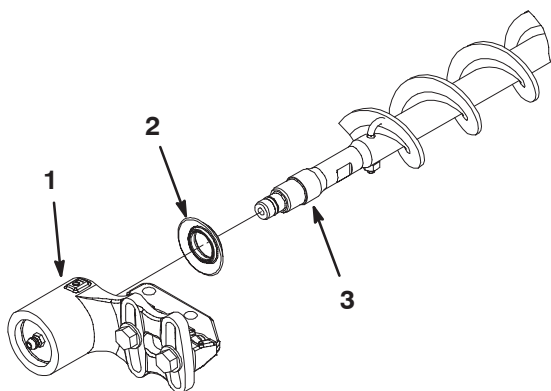

Figure 33
2. Slide the non-drive bearing housing and excluder seal off the brush shaft (Fig. 33).
8. Re-install the excluder seal and the non drive bearing housing onto the brush shaft (Fig. 33).
9. Mount the bearing housing to the bearing housing mounting bracket with the (2) bolts, washers and nuts previously removed. Be careful not to knock the seal spring off.